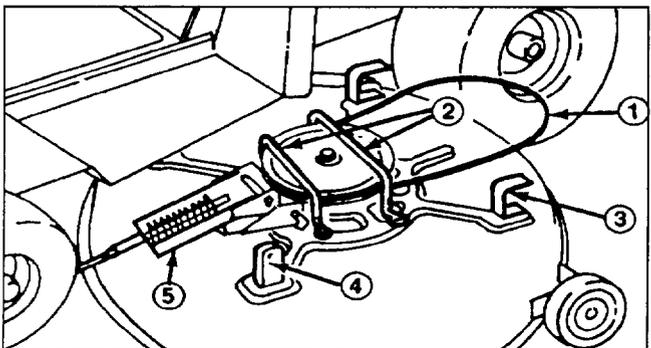

Figure 26
3. Loosen and remove (1) mounting screw securing each belt guide to cutting unit. Pivot belt guides away from spindle pulley and remove belt. Visually inspect belt for wear or damage (Fig. 26).